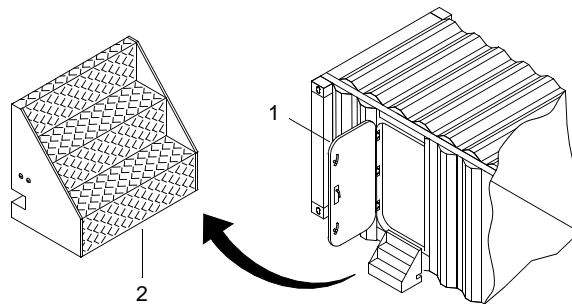

Figure 25. Installing Steps on Generator Container
2. Unlock, undog and open generator container exterior door (figure 25, item 1).
3. Fold out steps (figure 25, item 2).